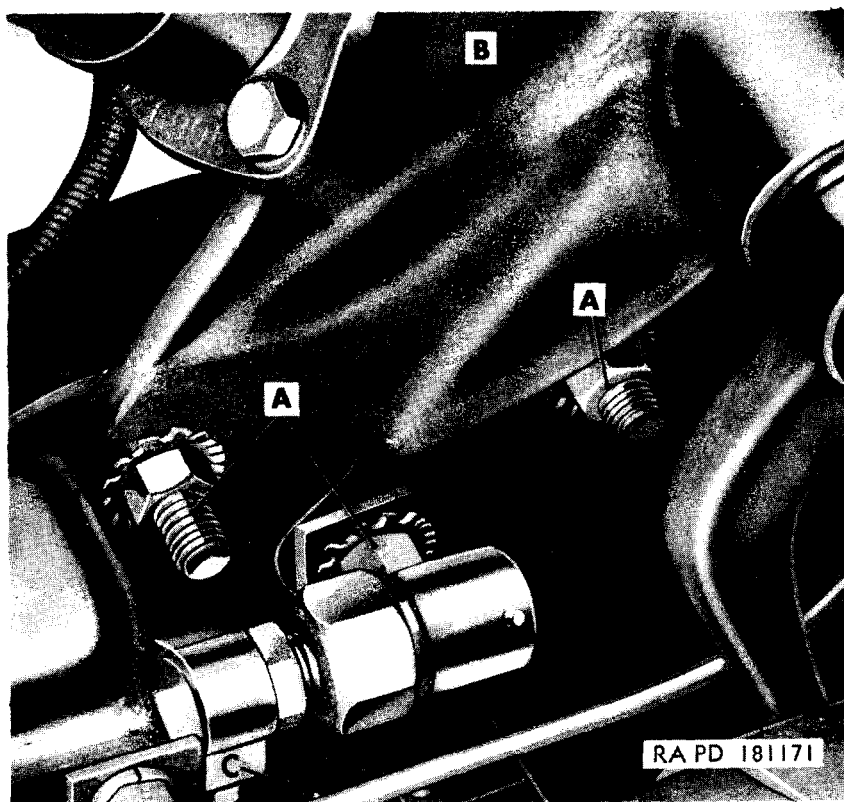

Figure 35. Steering gear disconnect points.
b. Remove Steering Gear (fig. 35). Remove 3 bolts, 3 plain nuts, and 6 lockwashers (A) securing steering gear to frame. Remove steering gear (B) from frame.
a. Install Steering Gear (fig. 35). Secure steering gear (B) to frame left side rail with three $\frac{1}{16}$ -20NF x 3 bolts, three $\frac{1}{16}$ -20NF plain nuts, and six $\frac{1}{16}$ -inch lockwashers (A).